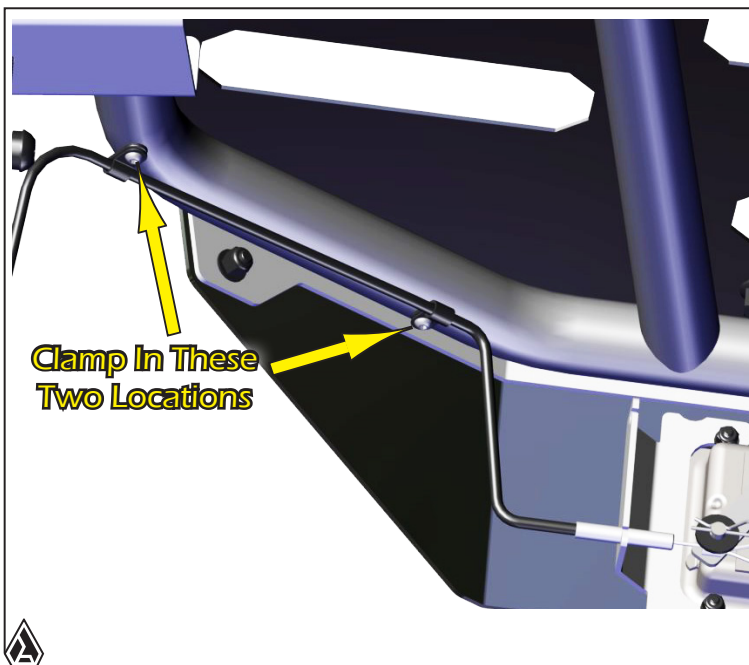

FIG.25A
25. The last thing to do is tie up the cables so they don't get in the way or damaged. You'll do this by clamping them to the rack frame using an **M4 Button Head Screw, Item "N"** and a **Brake Line Clamp, Item "X"** provided in your kit. **Fig.25a** shows the two locations on each side you will clamp to. **Fig.25b** shows this on more detail and also the hardware from your kit to use mentioned above.